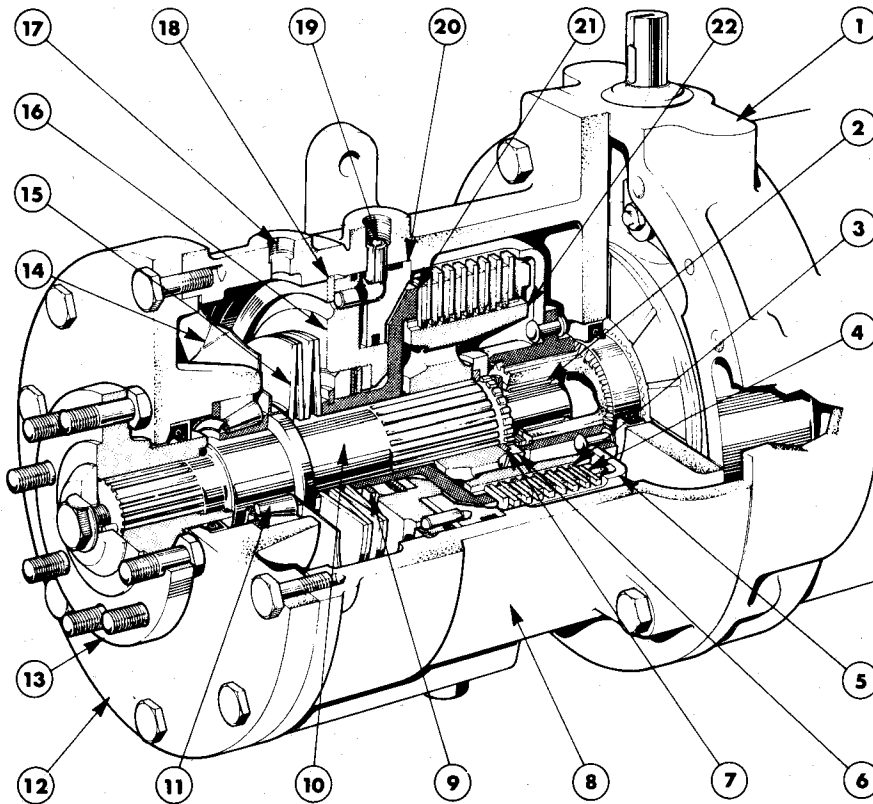
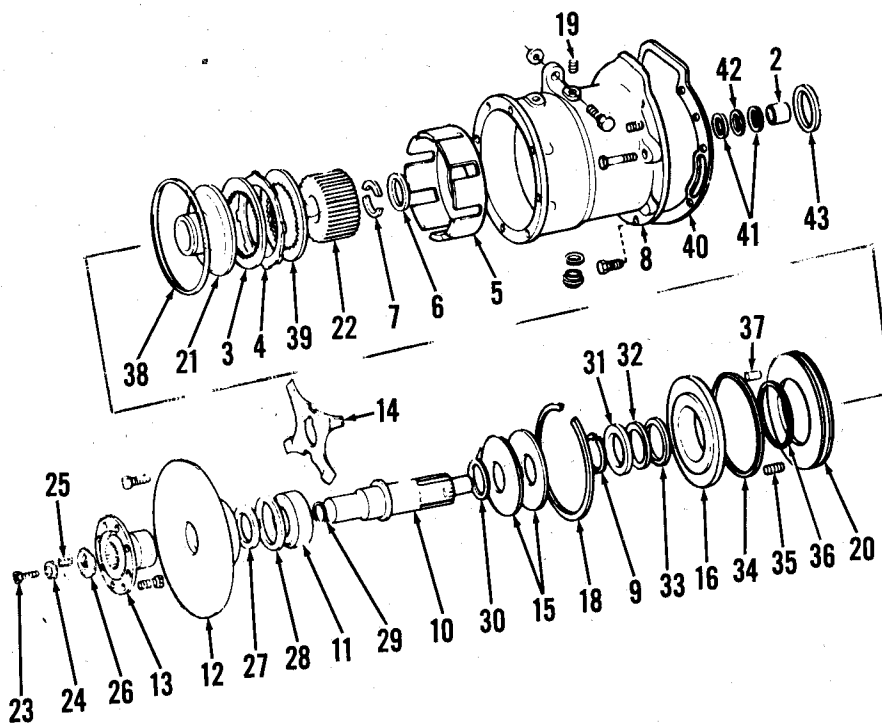
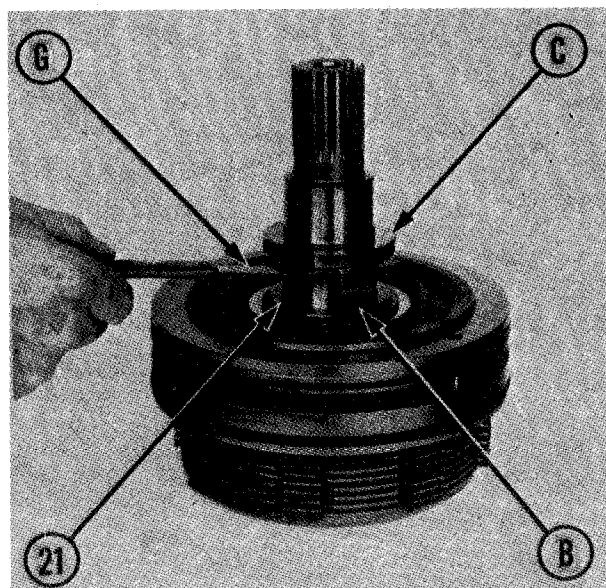

Fig. 60—Sectional view of transfer box assembly.
Fig. 61—Exploded view of transfer box.
Fig. 63—View checking cover shim thickness.
59. OPERATION. The transfer box is mounted on the transmission handbrake housing as shown in Fig. 60. The transfer box output shaft is supported at the rear by needle roller bearing (2) located within the hollow shaft of the transmission handbrake while the front is supported by tapered roller bearing (11). The transfer box assembly is actuated by a control rod that passes through the cab floor and connects to a control valve designed to divert oil from the tractor hydraulic system to clutch piston
(16). When the rod is pushed down, the control valve allows hydraulic oil to pressurize clutch piston (16) and disengage the clutch. When the rod is pulled up, the oil will return to the sump through an oil pipe leading from the control valve to the front of the transfer box case. In this position, clutch plates (3 and 4) are engaged as pressure of Belleville washers (15) against pressure piece (21) forces clutch plates together. With clutch plates engaged, plate carrier (22) and output shaft (10) rotate and transfer power to front wheel drive.
61. OVERHAUL. Disconnect clutch oil feed and return lines from transfer box housing ports (17 and 19—Fig. 60). Remove hex head bolts securing control valve retaining plate to housing and remove valve assembly, retaining plate and oil pipes. Remove remaining bolts and separate transfer box from handbrake assembly. Using special tool Ford No. T3122 or equivalent remove hex bolt, lockplate disc and pin (25—Fig. 61) from end of output shaft then remove flange (13). Mark housing and cover for proper alignment during reassembly. Remove cover bolts and transfer box cover (12). It may be necessary to use a hammer and brass drift to aid in
between shaft collar and pressure piece. Result is thickness of shim (30—Fig. 61). Shim is available in metric thicknesses from 2.0 mm through 5.0 mm in 0.5 mm increments. Separate output shaft from clutch and piston assemblies. Install oil deflector (14) with lip engaging flat on collar then press roller bearing (11) cone on front of shaft until oil deflector (14) and bearing are seated against shaft collar. Install original or new shim (30) then install Belleville washers (15) with concave sides facing each other. Install clutch and piston assemblies. Remove drum (5) without disturbing components, compress clutch and install split rings (7) on output shaft. Cover retaining ring (6) with petroleum jelly and install over split rings. Reinstall clutch drum.
Install seal (1) in housing (8) using a suitable sealant on seal periphery. Coat transfer box housing bores (where piston and thrust ring are located) with petroleum jelly and lower housing (8) over clutch and output shaft components. Align one recess in outer edge of thrust ring (20) with clutch piston oil pressure feed hole (19—Fig. 60) then drive roll pin into feed hole 0.006 inch from outer edge of hole. Roll pin must engage thrust ring recess to prevent turning. Secure clutch piston with snap ring (18). Coat outer edge of oil seal (43) with a suitable sealant and press into transfer box cover with sealing lip towards roller bearing. If front bearing cover outer race was removed install original size shim. Obtain correct output shaft end play by performing following shimming procedure: Protect front cover oil seal from output shaft splines and install "O" ring (29) on output shaft stem. Coat cover (12) face with sealant then install cover on housing using alignment marks made during disassembly. Tighten cap screws to a torque of 32 ft.-lbs. Mount transfer box assembly on blocks face down. Measure distance from rear face of case to output shaft shoulder as shown in Fig. 63. Distance should be between 2.216-2.232 inches. Install correct thickness of shim (28—Fig. 61) to
63. To determine proper end play between transfer box output shaft and drive shaft in brake housing assembly, remove brake housing gasket and place a straight edge of known height across brake housing face as shown in Fig. 64. Measure distance from face of brake housing to edge of brake driven shaft. Subtract previously measured distance from transfer box rear face to output shaft shoulder (Fig. 63). The result (Dimension C—Fig. 65) is the total thickness of thrust needle bearing (42—Fig. 61) and two thrust washers (41) needed to obtain desired end play. See Fig. 65 to determine correct bearing/washer thicknesses. Coat thrust needle bearing and thrust washers with petroleum jelly and install on rear of transfer box output shaft. Washer's polished face must face bearing. Install new needle bearing in bore of brake driven shaft if necessary. Apply sealer, Ford specification ESE-M4G-11-A or equivalent to gasket, then install transfer box assembly and control valve plate to brake assembly. Tighten housing cap screws to a torque of 38 ft.-lbs. Tighten control valve retaining plate bolts to a torque of 18 ft.-lbs. Install clutch, oil return lines and transfer case drain plug.